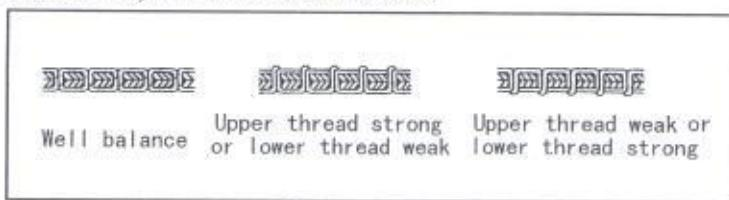

Fig.5
- (1) Removing: Open the shuttle race cap and the bobbin holder, then take out the bobbin.
- (2) Installation: Put the bobbin in the rotary hook case, Permit about 5 cm of bobbin thread to hand down freely. Install the bobbin in the bobbin case so that the thread wound direction is clockwise. Then close the rotary hook and the shuttle race cap.
9. ADJUSTING THE THREAD TENSION (Fig.5)